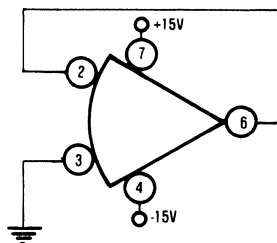

FIGURE 5. Test Circuit, Burn-in and Operating Life Test.
- (1) Test condition B
- (2) Test circuit is Figure 5 herein
- (3) $T_A = +125^\circ\text{C}$ minimum
- (4) Test duration is 160 hours minimum
- (1) Test condition D
- (3) $T_A = +125^\circ\text{C}$ minimum.
- (4) Test duration is 1000 hours minimum